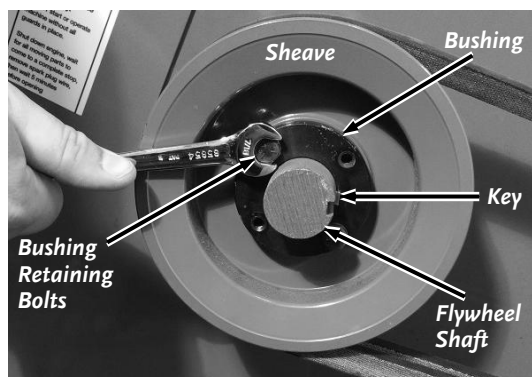

Figure 34b: Pro-XL 575
- a) Remove the Bushing Retaining Bolts (**Figure 34b**).